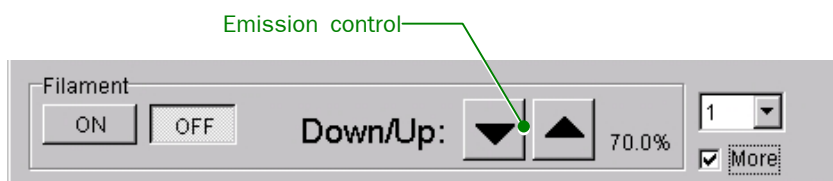

Fig. 5.13 Generating high voltage
- c. Wait until the Beam Current in the **High Voltage Control** window becomes stable; then click on Filament **OFF** in the **High Voltage Control** window (☞ Fig. 5.13) or press the Beam button (L1-①) to turn off the beam.
- d. Increase the accelerating voltage by 20 kV and click on Filament **ON** in the **High Voltage Control** window (☞ Fig. 5.13).